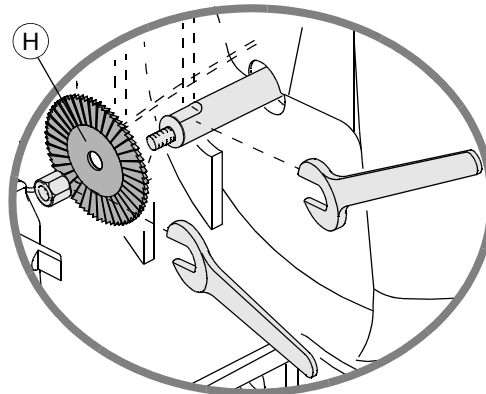

Fig. 15
- 1) place the spanner provided in position on the motor shaft (fig. 15);